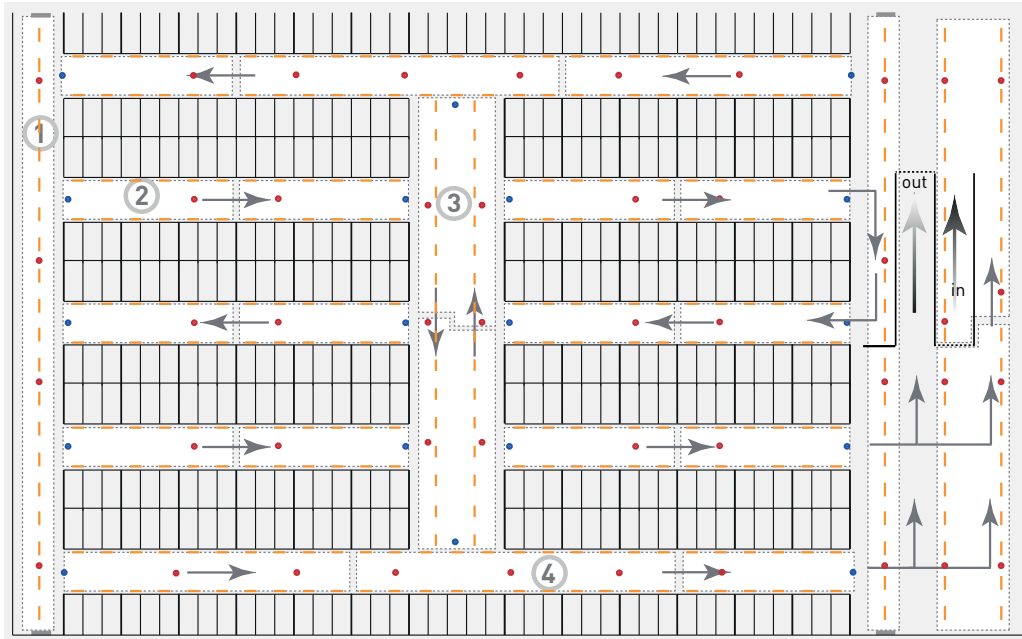

Figure 6:
Parking bay areas (see figure 6, areas 1 and 3) and crossways (figure 6, areas 3 and 4) are switched in two areas each. In
- 20 radio 32 DALI devices (see figure 6).